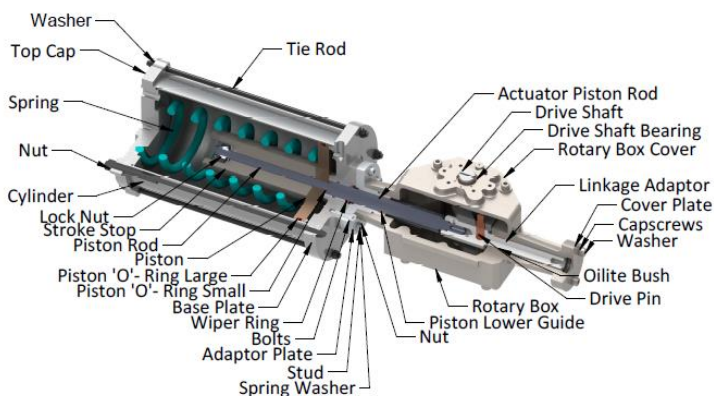

Figure 1: Rotary Actuator (P25, P50, P100, P200) Cross Sectional Layout
An actuator available on the assembly could be any one of the first 4 types indicated in table 1 and rotary box attached is any one the first three types indicated in table 2. Refer figures 1 and 2.
The conversion unit refers to the scotch yoke rotary conversion setup which enables linear to rotary conversion. Refer to figure 1&2 for installation purposes. The conversion unit, which's sole purpose is intended to enable conversion of linear to rotary movement, follows the simple scotch yoke mechanism as the principle and hence the name.
Refer figures 1&2 for reassembling the actuator.
1. All parts to be free from dirt and grit. Ensure to replace all the 'O' rings in the entire actuator assembly with new ones. Refer figure 1.
5. Since the actuator is a direct acting actuator, ensure to position the cylinder followed by the spring and then the piston assembly and then locate the top cap. Refer figure 1.